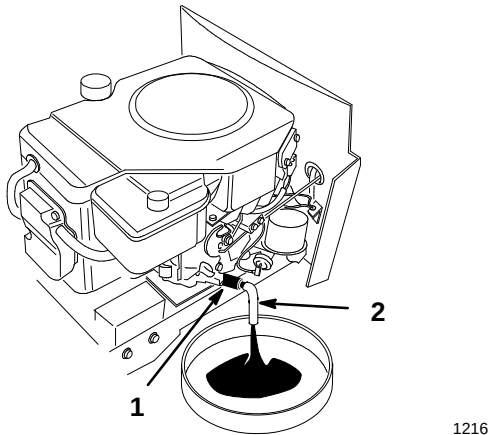

Figure 20
5. Place a pan below the oil drain. Open the drain by turning counterclockwise, 1/8 turn and pull out. (Fig. 20).